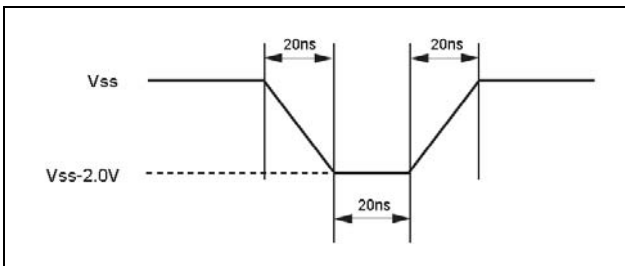
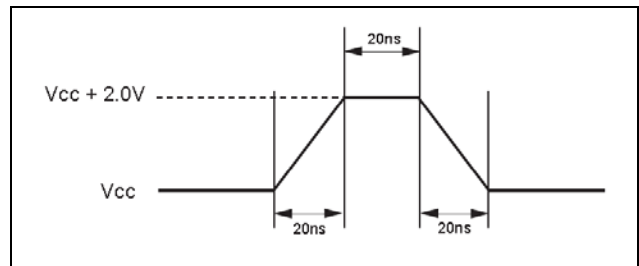

Figure2.Maximum Negative Overshoot Waveform
Figure3. Maximum Positive Overshoot Waveform
3. During voltage transitions, all pins may overshoot  $V_{SS}$  to  $-2.0V$  and  $V_{CC}$  to  $+2.0V$  for periods up to 20ns, see Figure 2, and Figure 3.